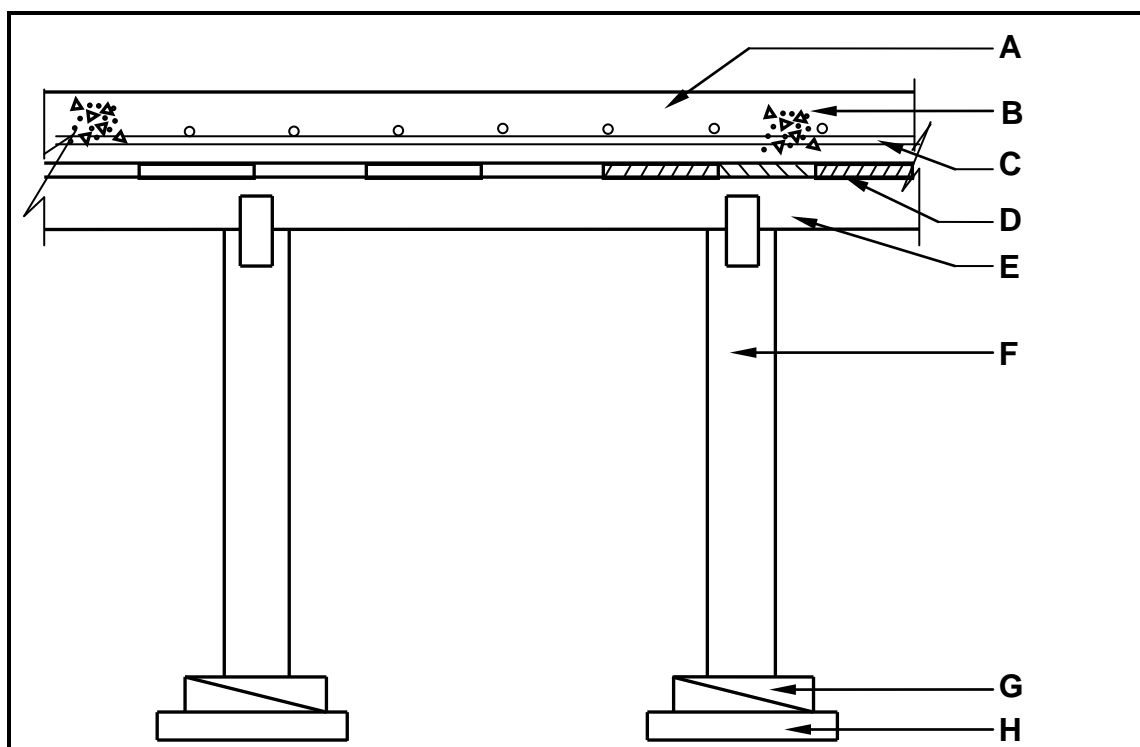

FIGURE 2.1
- 2.1 FIGURE 2.1 below shows formwork supporting a concrete floor. Analyse the illustration and answer the questions that follow.